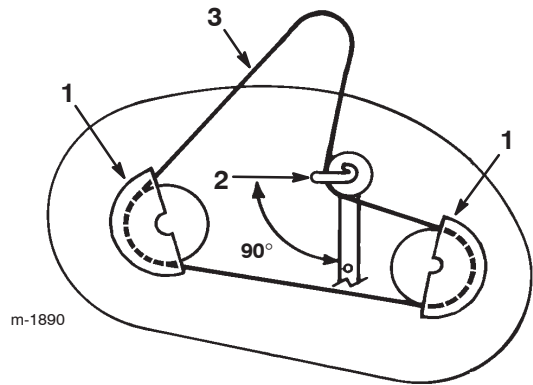

Figure 47
2. Remove the pulley cover mounting screws and pulley covers from both blade pulleys (Fig. 47).
3. Loosen, but do not remove, the bolt and nut that secures the idler pulley and the belt guide (Fig. 47).
2. Position the idler pulley belt guide so that it points toward the left, 90° to the idler arm (Fig. 47).
4. Install the left and right pulley covers with the mounting screws (Fig. 47).